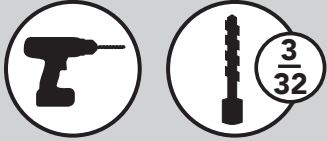

FIGURE 3.1
Pre-drill (2) 3/32" holes at an angle through the top and bottom edge of the filler towards the adjacent mounting cabinet (See Fig. 3.1 and Fig. 3.2).